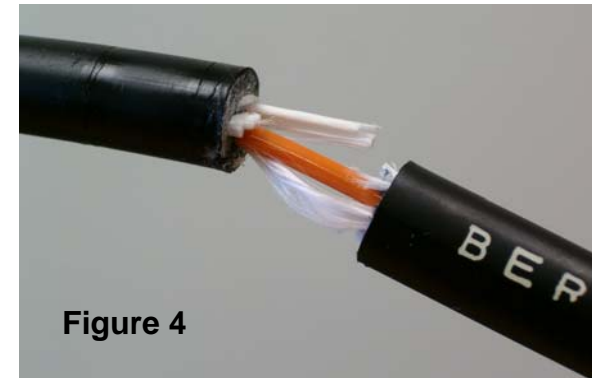

Figure 4
5. Remove cable sheath to expose the buffer tube. If needed, use a pair of scissors to carefully cut any remaining strength yarns that restrict pulling the sheath off. See **Figure 4**.